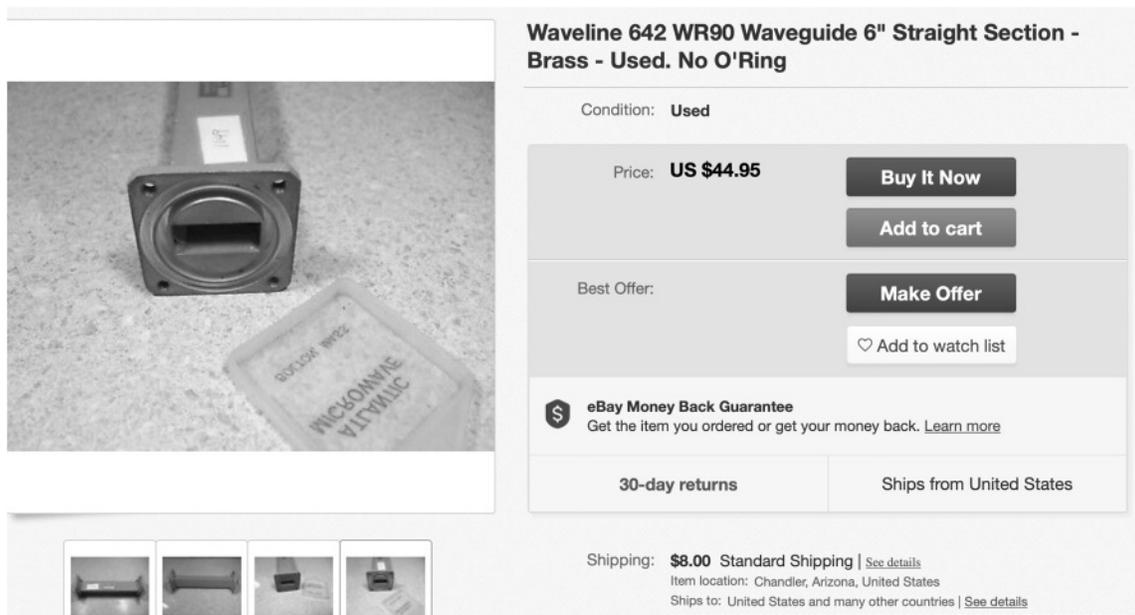

Figure 2
Paul Wade, W1GHZ published an excellent article (1) on building converters which covered his experience and gives details on an approach which may be used to build a microwave converter. I used Paul's article to help guide me in my efforts. Paul's approach was to start with a piece of waveguide made for the target band, WR 90 for 10 GHz as an example. If you want to follow Paul's approach you might look for waveguide or waveguide parts like the one shown in Figure 2 found on eBay. Then you could cut the waveguide section into two pieces and place a plate over the end of each of the pieces and add SMA connectors. The result would be two converters. Since you inherit the flanges from the existing piece this minimizes machining and effort. Finding an economical part to start with may be difficult.